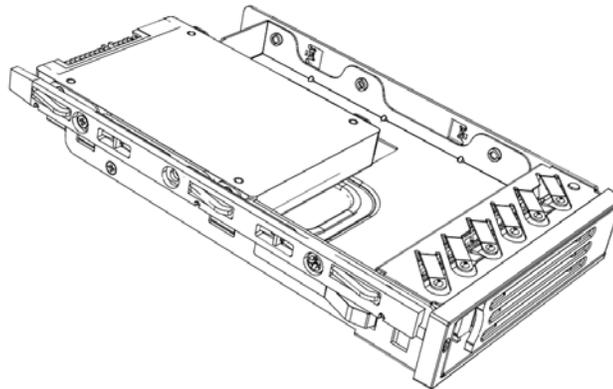

Figure 7. Left view after Installation
- Figure 7. Left view after Installation 4